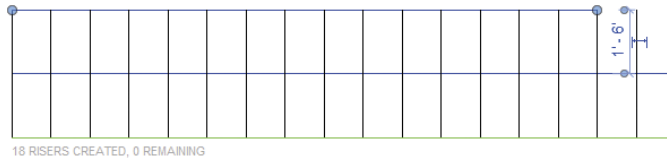

FIGURE 4.11 Sketch-based stair boundary line
2. Select the top boundary line and drag the end grip back two risers (Figure 4.11).